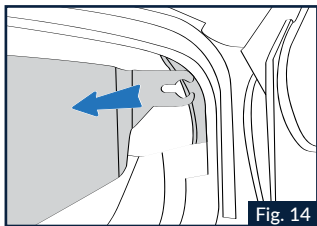

Fig. 14
screen and pull it toward the outside of the helmet (Fig. 14).
4.2 Insert the sunscreen left end into the guide until it is completely fastened to the shell housing (Fig.14).